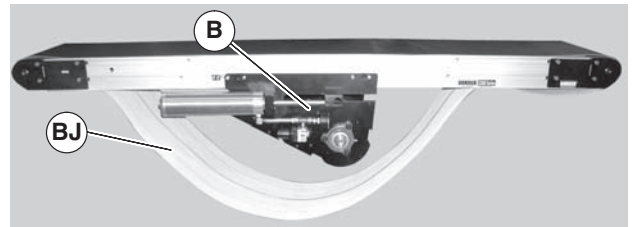

Figure 31
11. Remove belt (Figure 31, item BJ) from center drive module (B) and conveyor.